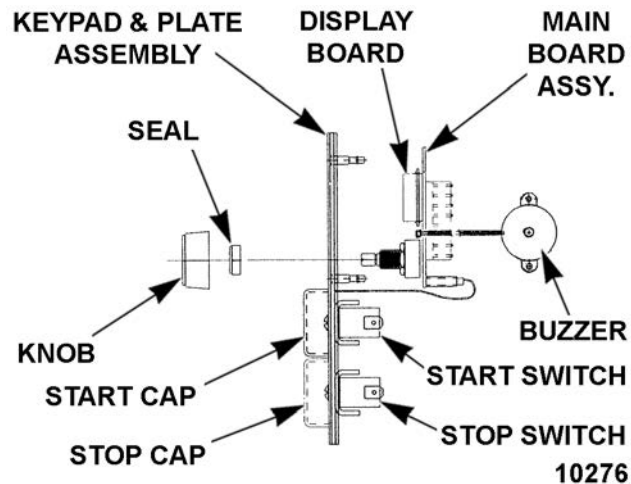

Fig. 169
1. Disassemble the switch plate assembly. Refer to Fig. 169.